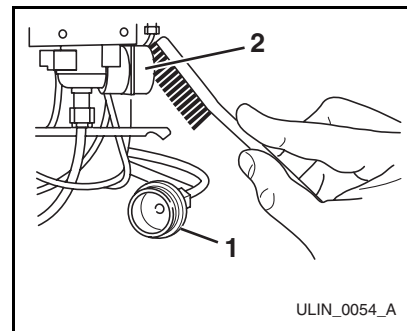

Figure 10
4. Disconnect the hose connector (**Figure 10, 1**) from the water solenoid valve (**Figure 10, 2**).
6. Re-connect the water supply hose connector (**Figure 10, 1**) to the water solenoid valve (**Figure 10, 2**). Tighten the connector securely.